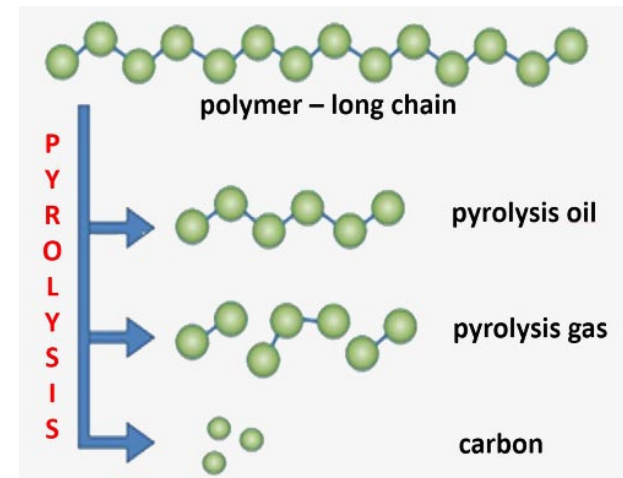

Figure 8. Products of pyrolysis ^{5,6}
- ▶ Output (Figure 8) ^{5,6}:
- Pyrolysis gas is produced, it's a gas mixture consisting of hydrogen (H_2), carbon monoxide (CO), carbon dioxide (CO_2) and methane (CH_4).